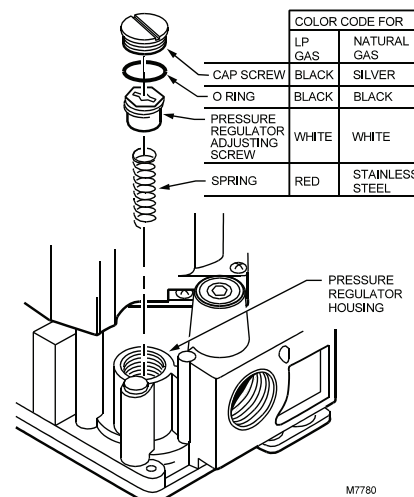

Figure 4. Installation of conversion kit in regulated gas control.
4. Insert the replacement spring with tapered end down. See Figure 4.